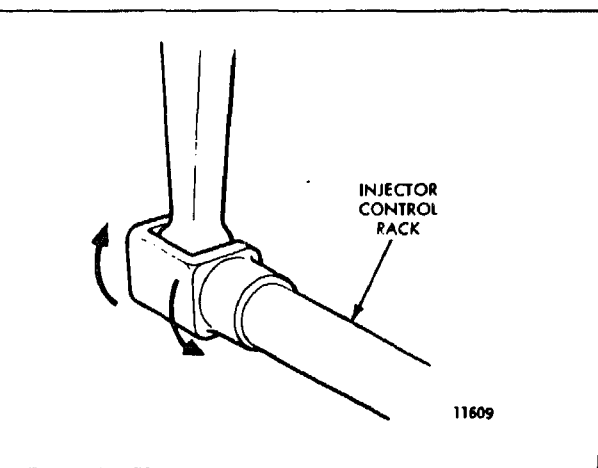
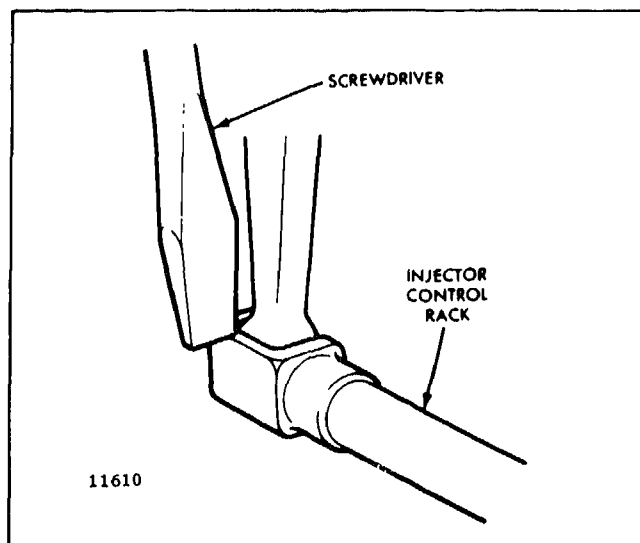

Fig. 3 - Checking Rotating Movement of Injector Control Rack
Fig. 4 - Checking Injector Rack "Spring"
6. To be sure of the proper rack adjustment, hold the speed control lever in the full-fuel position and press down on the injector rack with a screw driver or finger tip and note "rotating" movement of the injector control rack (Fig. 3) when the speed control lever is in the maximum speed position. Hold the speed control lever in the maximum speed position and, using a screw driver, press downward on the injector control rack. The rack should tilt downward (Fig. 4) and when the pressure of the screw driver is released, the control rack should "spring" back upward.